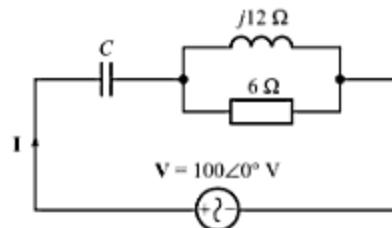

Fig. 10.18
26. The circuit shown in Fig. 10.18 operates at a frequency of 50 Hz. Determine the value of C such that the input voltage V and the input current I are in the same phase. [Ans. $1325.75 \mu\text{F}$]